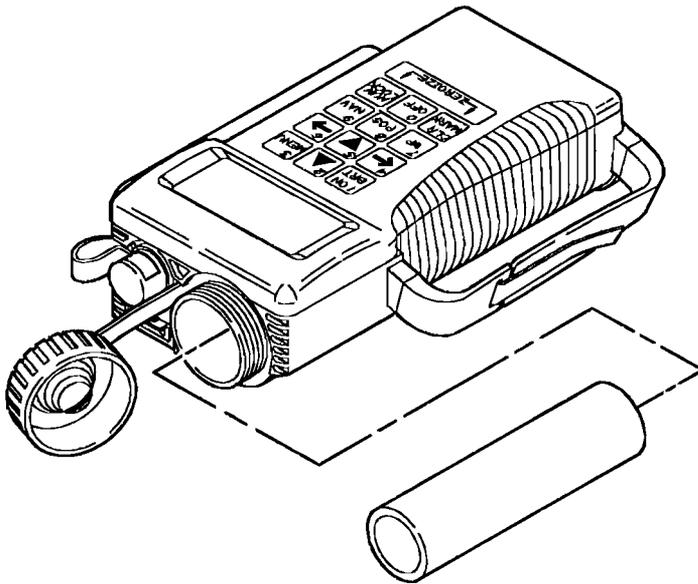

Figure 8-1 Replace Power Battery.
- a. To remove the power battery, turn OFF the PLGR. Remove the power battery cover (top of the unit) by twisting counterclockwise (ccw). Tilt the unit upside down and the battery slides out into your hand. Refer to Figure 8-1.